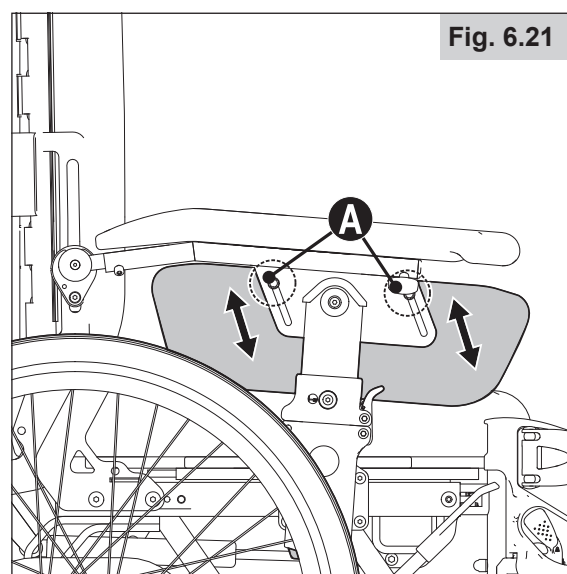

Fig. 6.21
6.20 Adjusting the height of the cloth protector (Fig. 6.21)